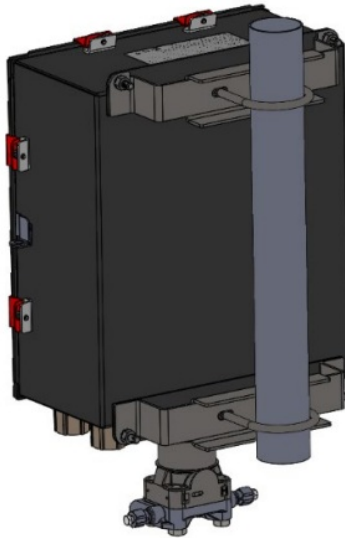

Figure 7. FB2200 (Aluminum Enclosure) on Pipe Mount
2. The FB2100 mounts on a two-inch pipe or pole (see Figure 7) or can be wall- or panel-mounted using the four holes in the case and suitable attachments.
- Insert each bare wire end into its appropriate connector and secure the wire (see Figures 7 and 8).